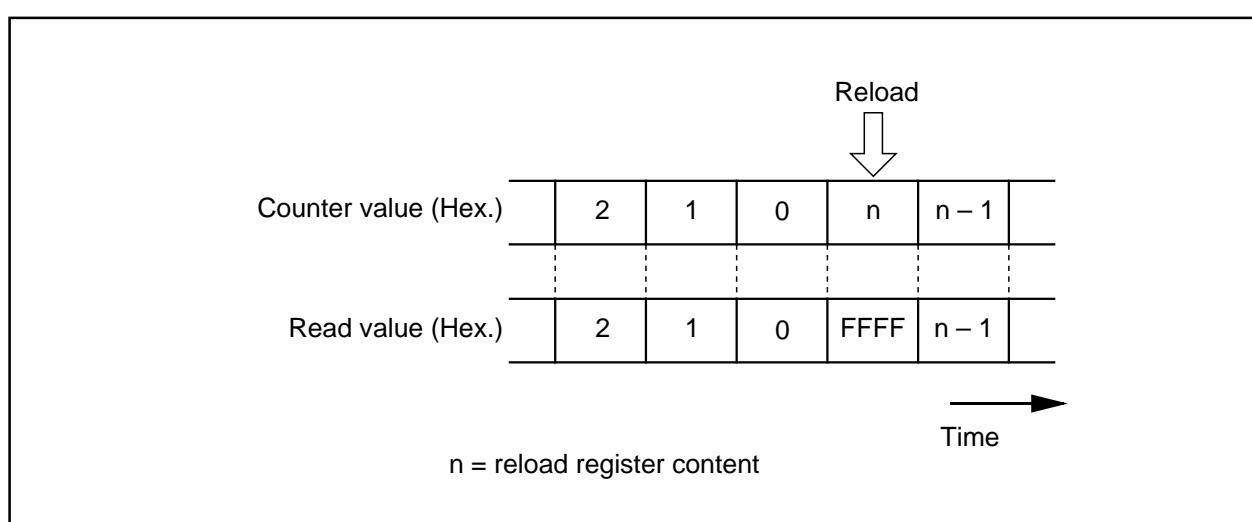

Figure 1.4.1. Reading timer Bi register
2. Reading the timer Bi register while a count is in progress allows reading, with arbitrary timing, the value of the counter. Reading the timer Bi register with the reload timing shown in Figure 1.4.1 gets "FFFF₁₆". Reading the timer Bi register after setting a value in the timer Bi register with a count halted but before the counter starts counting gets a proper value.